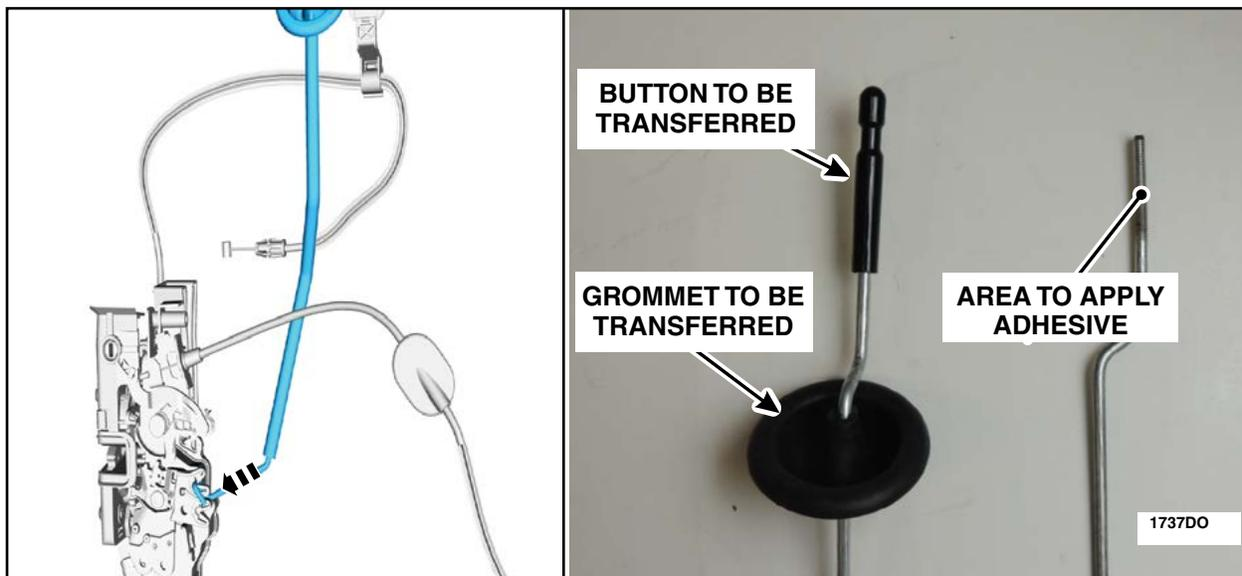

FIGURE 59
8. Lock rod replacement procedure. See Figure 59.